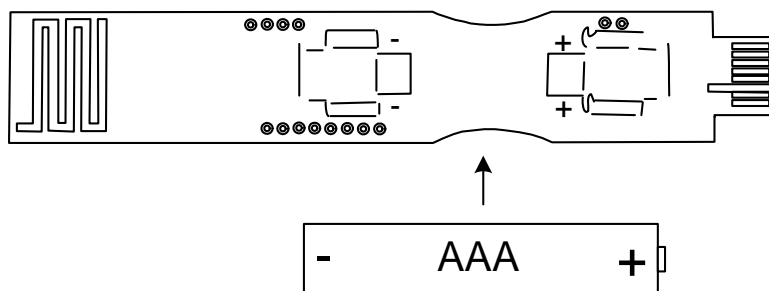

Figure 4. RF USB Node Battery In
- Insert the battery into one of the node boards as shown in Figure 4.